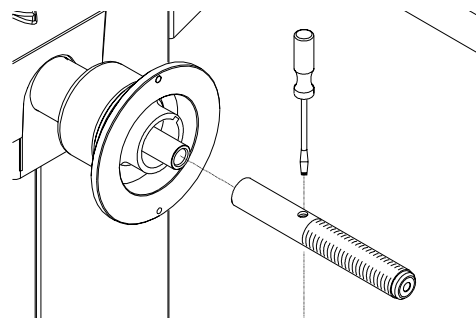

Figure 6
A. Mount the threaded shaft onto the arbor of the balancer. Tighten firmly using a screwdriver. (Figure 6).